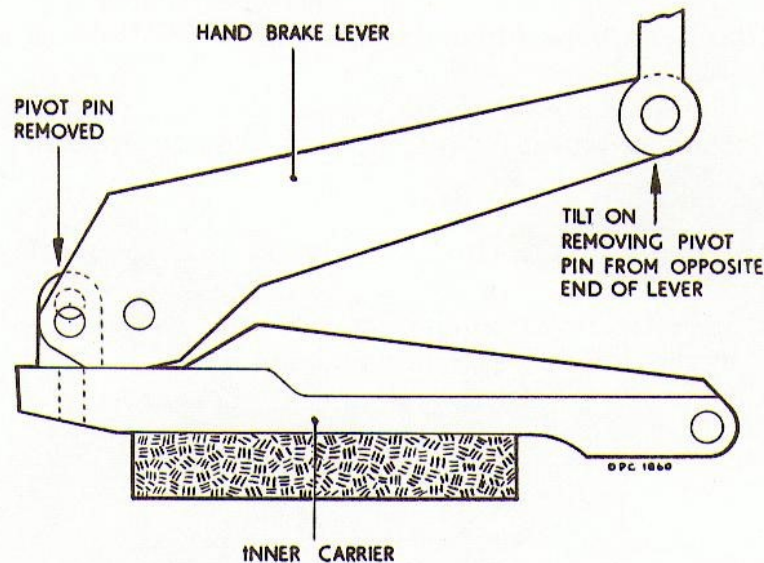

Fig. 6 Re-Fitting the Hand Brake Lever
- (1) Unscrew and remove the adjuster bolt and locknut and swing the pad carriers away from the disc.
- (2) Remove a split pin and withdraw the lever pivot pin. (See Fig.6).
- (3) Remove the bifurcated rivets from both carriers and prise off the worn linings.
- (4) Place the new linings in position and secure them with new bifurcated rivets.
- (5) Place the lever against the inner carrier in the attitude shown in Fig.6. Hold the locknut firmly against the outer face of the trunnion and screw in the adjuster bolt until three or four threads engage the locknut.
- (6) Align the holes in the lever and pivot seat, fit the pivot pin and lock it with the split pin.
- (7) Reset the clearance as previously described.